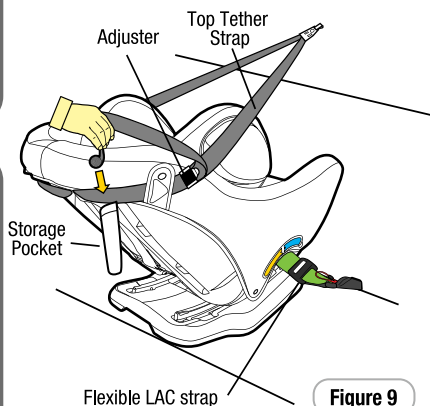

Figure 9
**Step 8:** Store any excess webbing, from the top tether strap, in the storage pocket provided on the restraint (refer Figure 9).